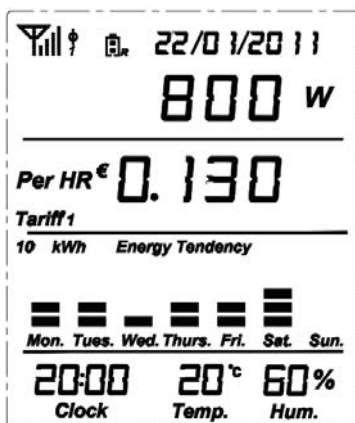

Fig.42
- 1) The battery icon with R stands for the battery for the display unit (because the display unit is a data receiver). When the total remaining batteries is over 3.9V, the icon displays as full. For remaining batteries between 3.1V and 3.9V, the icon displays as half full. For remaining batteries under 3.1V, the icon displays as blank (as per Fig.42, 43 and 44)
If the highest histogram is equal to or below 10kWh, the full scale of the histogram is displayed as 10kWh. That means each grid will stand for a value of 2kWh ($10/5=2\text{kWh}$) (as per Fig.42).